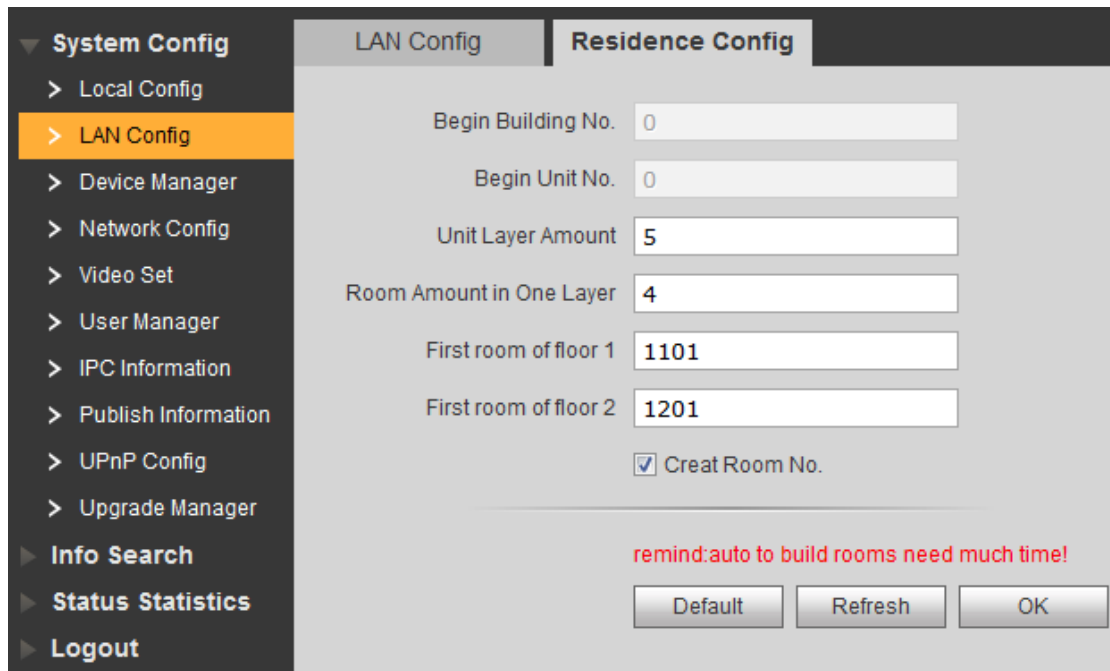

Figure 4-13
Step 2. Configure parameter, see Figure 4-13.